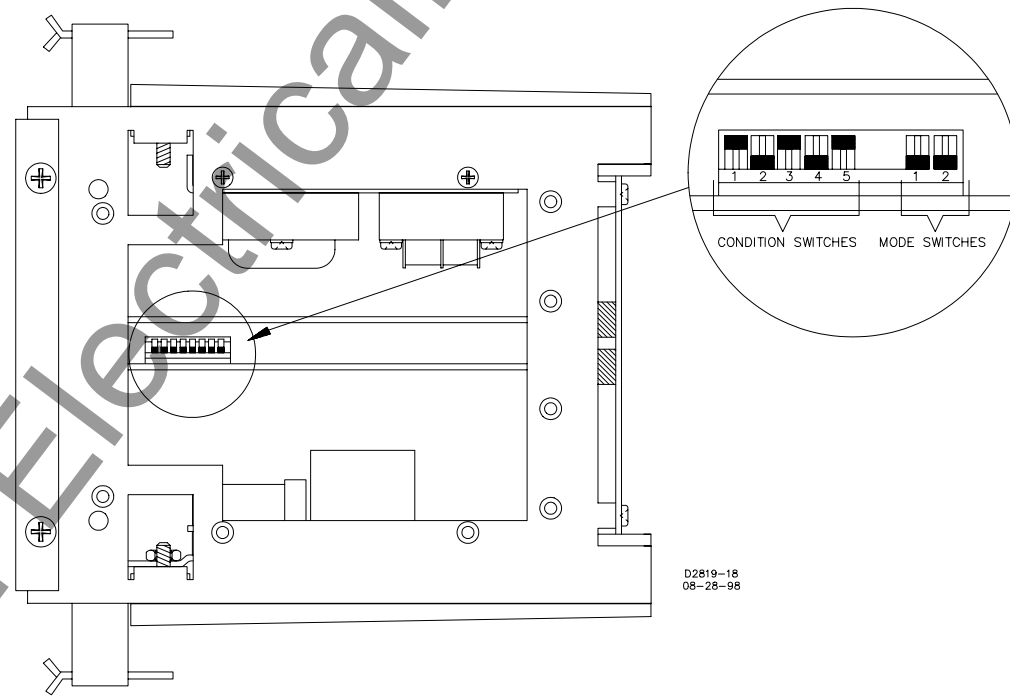

Figure 3-2. Optional Voltage Monitor Board CONDITION and MODE Switches Location
Refer to Figure 3-2 for the following table.
(*) Cradle must be removed for access to circuit board-mounted switches. See Figure 3-2 for location of switches on voltage monitor board.
Step 3. Ensure that all CONDITION and MODE switches on the voltage monitor board are set to normal (up) or off (up) (see Figure 3-2).